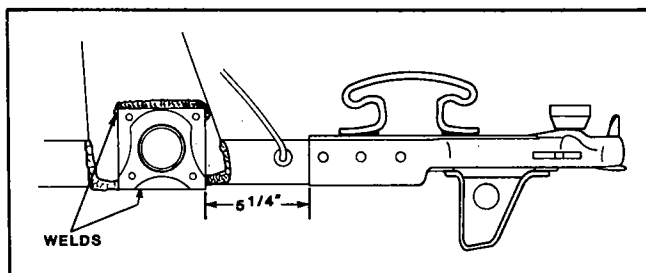

Figure 24. Jack Plate Location
- Measure 12 inches back from the front of the tongue and clamp jack mounting bracket P/N 21905-012 in position. Weld as shown (figure 24).